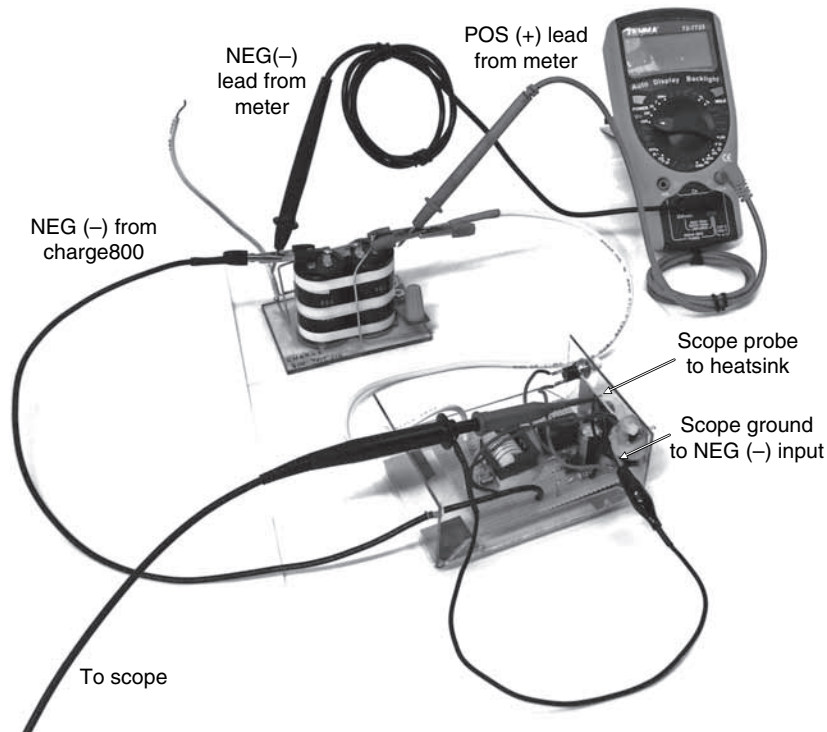

Figure 4-16 Test jig setup.
2. Put the test clip on the HEAT SINK of 30SS for scope probe, and ground it to the power supply plug ground (black wire) (Fig. 4-16).
3. Connect the output to the capacitor bank (test jig): white to positive (+), black to negative (-) (Fig. 4-16).
4. Connect the voltmeter across the test rig (+) and (-) (1000-V range on meter) (Fig. 4-16).